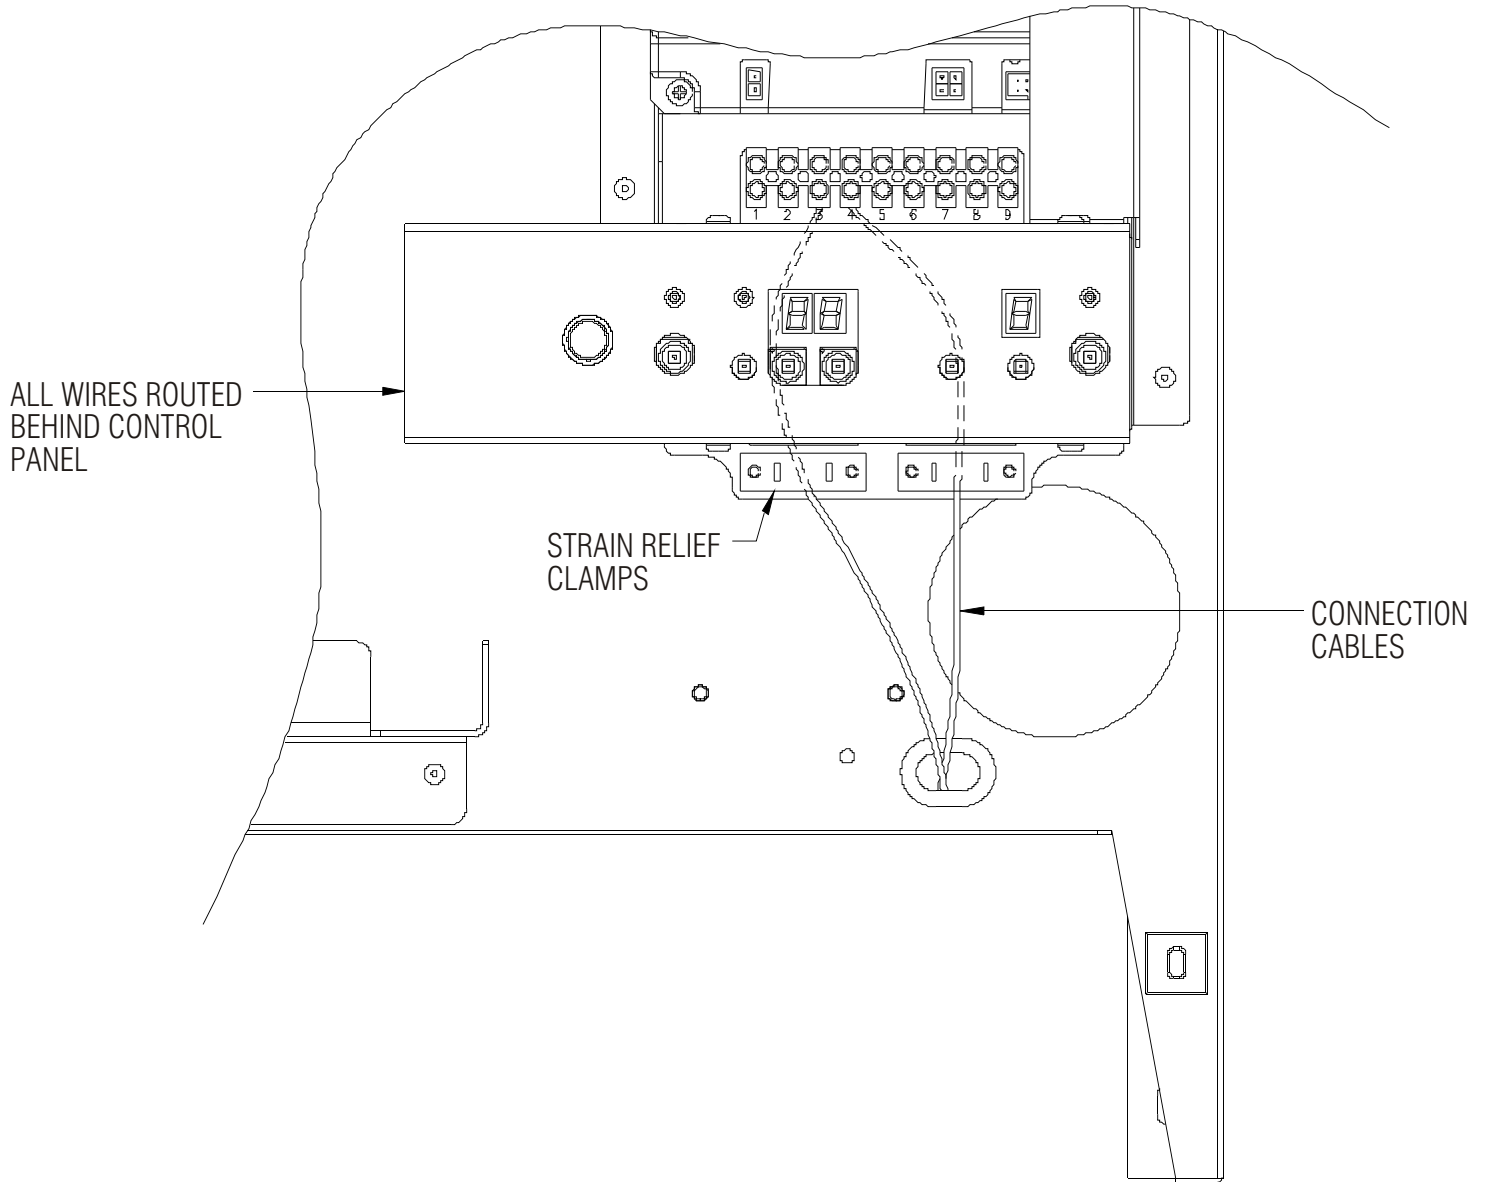

Figure 4D
- i) Route external controls cable to the underside of the controller and through the grommet provided. (See Fig 4D)
- iii) Connect the switch connections in the time clock (using 2 core 0.5 mm² PVC double insulated cable) via the grommet and strain relief clamps to the 9 way terminal block in the boiler in accordance with Figure 4D.
Connect the 3 port valve (using 2 core 0.5 mm² PVC double insulated cable) via the grommets and strain relief clamps to the 9 way terminal block in the boiler in accordance with Figure 4D.